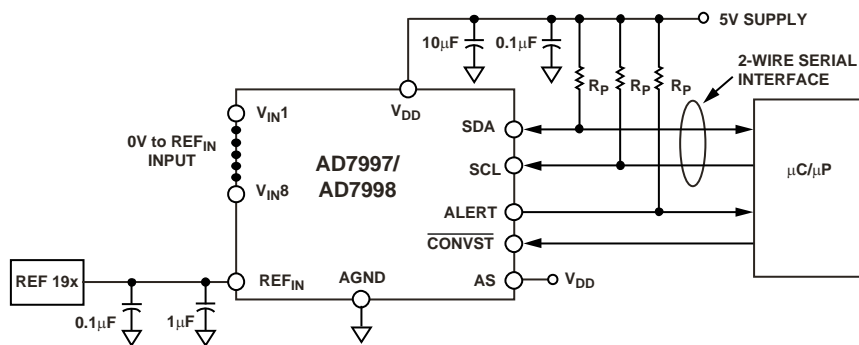

Figure 22. AD7997/AD7998 Typical Connection Diagram
The typical connection diagram for the AD7997/AD7998 is shown in Figure 22. In this figure, the address select pin (AS) is tied to  $V_{DD}$ ; however, AS can also be tied to AGND or left floating, allowing the user to select up to five AD7997/AD7998 devices on the same serial bus. An external reference must be applied to the AD7997/AD7998. This reference can be in the range of 1.2 V to  $V_{DD}$ . A precision reference like the REF 19x family, AD780, ADR03, or ADR381 can be used to supply the reference voltage to the ADC.